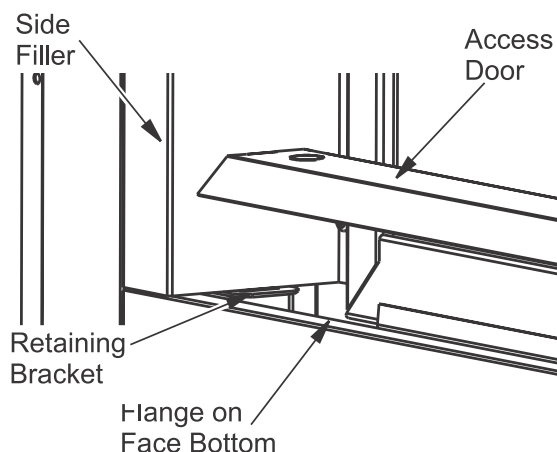

Figure 34 - Access Door for See-Thru Applications
1. Place access door into rectangular opening in front of the glass door with the slanted side facing forward. The slanted surface will slide underneath the flange of the bottom face. Insert tabs on side of access door into slots on retaining brackets (See Figure 34, page 25).
2. Remove access door (see Figure 34, page 25).